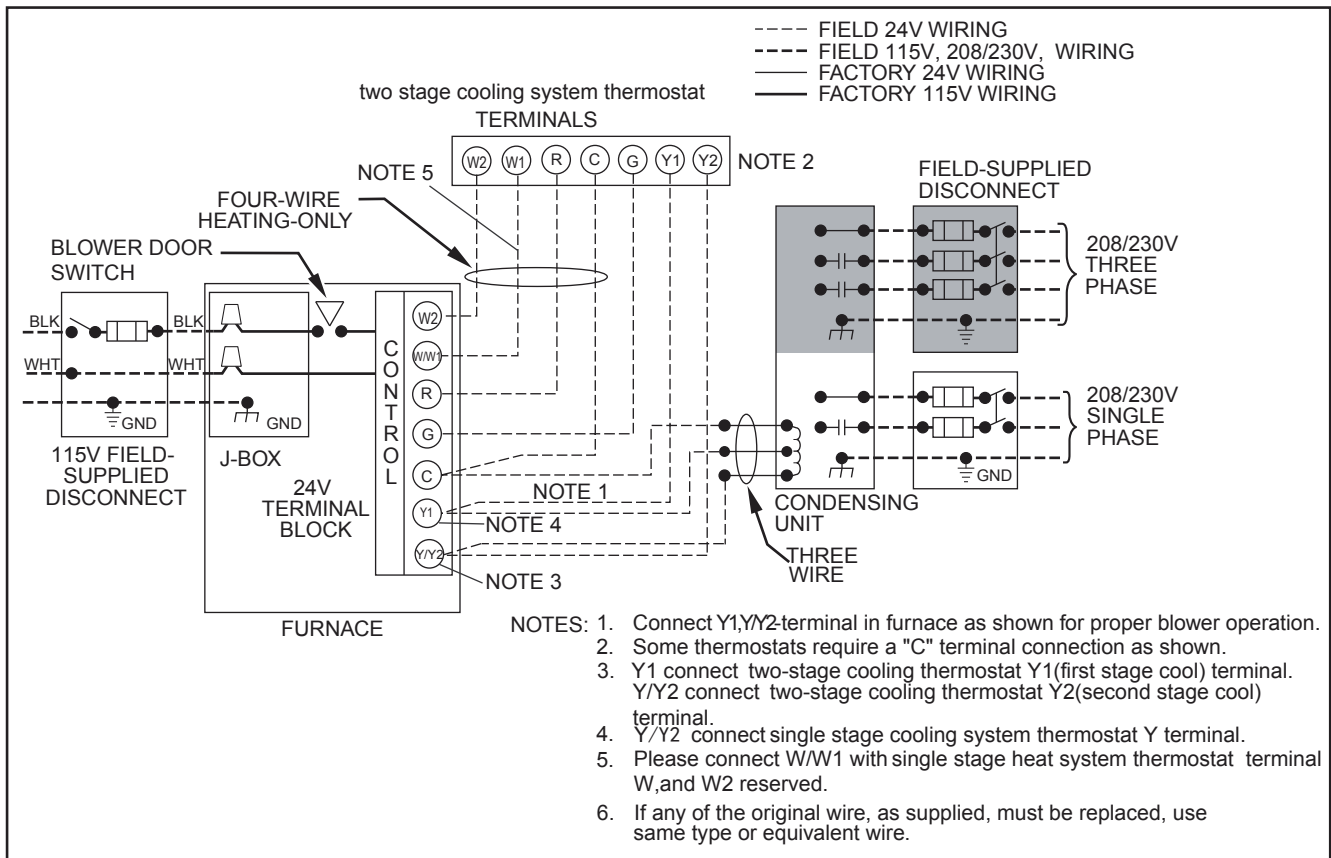

Fig.33 - Heating and Cooling Application Wiring Diagram with 2-Stage heating Thermostat
5. Connect line voltage leads as shown in Fig. 33.
- Complete electrical box wiring and installation. Connect line voltage leads as shown in Fig. 33. Use best practices (NEC in U.S. and CSA C22.1 in Canada) for wire bushings, strain relief, etc.
- Connect line voltage leads as shown in Fig. 33.
1. Maintain 115V wiring and ground. Improper polarity will result in rapid flashing LED and no furnace operation. (See Fig. 33)
2. Make thermostat wire connections at the 24-V terminal block on the furnace control. Failure to make proper connections will result in improper operation. (See Fig. 33)